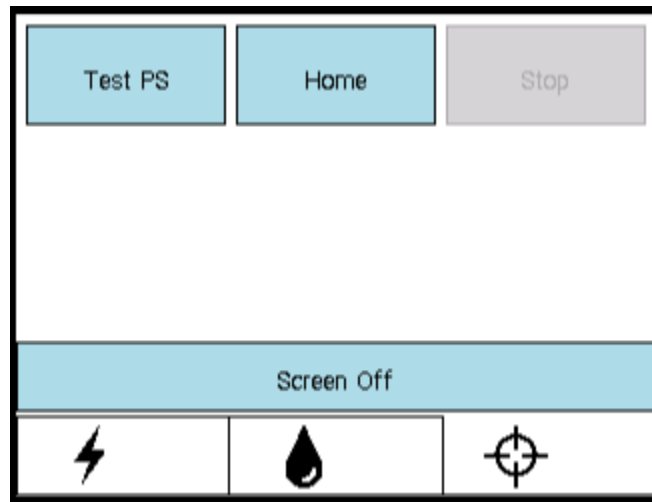

Figure 16: PSIB display - PS tab
- b. On the PSIB display, select the PS tab and click **Test PS** (*Figure 16*). The system will translate the PS forward and backward to test the continuity and functionality of the translation axis as well as home the PS in the translation axis. The system will also rotate the rotational axis clockwise and counter-clockwise to test the continuity and functionality of the rotational axis. (This can also be done from the TDC *Setup* workspace in the PS information box in the bottom-right quadrant *Figure 17*.)